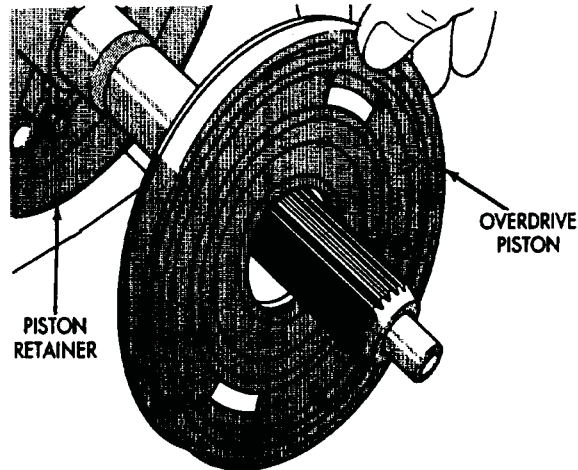

Fig. 3 Removing Overdrive Piston
(3) Remove overdrive piston from retainer (Fig. 3).
(4) Remove overdrive piston thrust bearing from